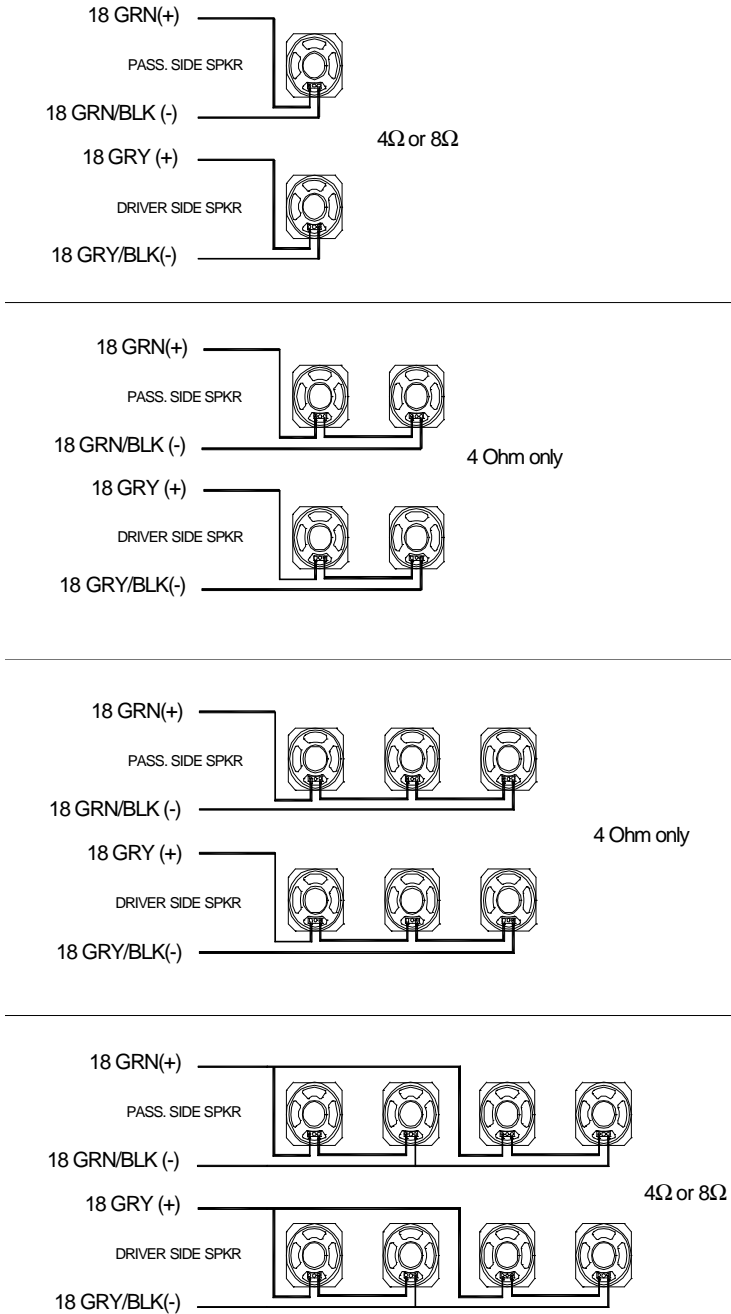

Figure 11
- 4) Speaker Out- This connection goes to both right and left internal and external speakers. See Fig. 11 for speaker connections